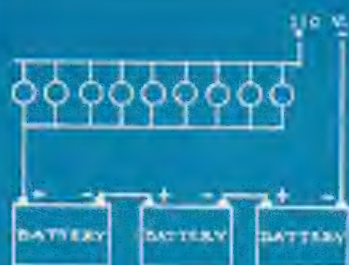

FIG. 2
3. Each cell in fig. 2 has a pressure of 2.5 volts, and a 6-ampere charging rate. Have enough lamps been placed in the line to give this rate?